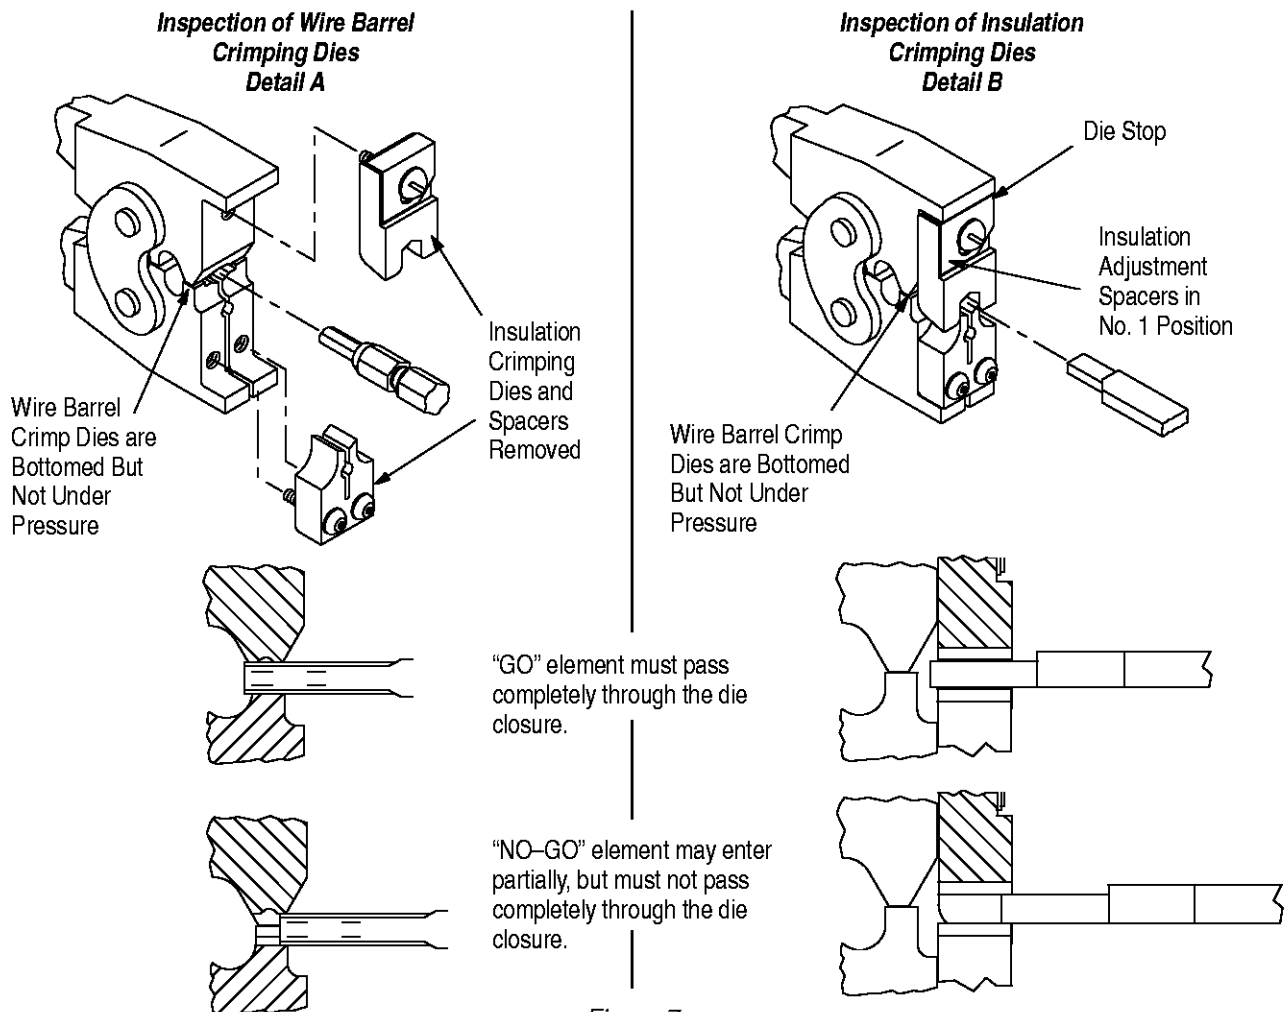

Figure 7
2. Remove screws, insulation crimp adjustment spacers and both insulation crimp dies to provide access to wire barrel crimp dies for plug gaging. See Figure 7, Detail A.
4. Align the GO element with the wire barrel crimping chamber. Push element straight into the crimping chamber without using force. The GO element must pass completely through the crimping chamber, as shown in Figure 7, Detail A.
5. Align the NO-GO element and try to insert it straight into the same crimping chamber. The NO-GO element may start entry, but must not pass completely through the crimping chamber. See Figure 7, Detail A.
6. Position both insulation crimp adjustment spacers so they fit between die and die stop. Insert both insulation crimp dies and tighten screws. Dies are now set in the No. 1 position. See Figure 7, Detail B.
7. Measure the insulation crimp die closure of the dies with the proper plug gage in the same manner as steps 3 through 5. See Figure 7, Detail B.